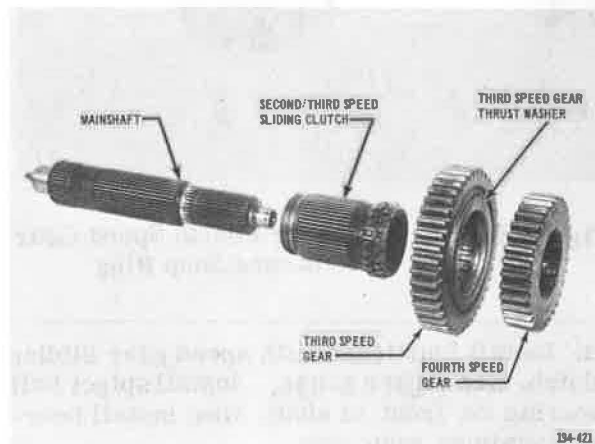

Figure 5-635. Exploded View of Front Mainshaft Assembly
9. Install second and third speed sliding clutch, third speed gear with thrust washer and fourth speed gear on front mainshaft as shown in Figure 5-635.